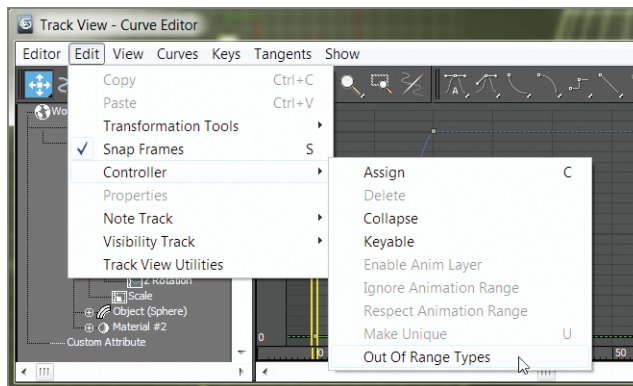

FIGURE 5.5 Selecting Out Of Range Types
2. A menu bar runs across the top of the Curve Editor. In the Edit menu, choose Controller > Out Of Range Types, as shown in Figure 5.5.